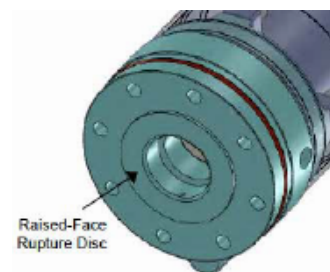

Figure 4-9 Underside of Valve Body Flange
- 4.1.10.2** Similarly, on the raised surface on the underside of the valve body flange (also in contact with the rupture disc) must be completely free of imperfections, see Figure 4-9. Examine it carefully. No re-machining is permissible. Replace the valve body if defects are observed.